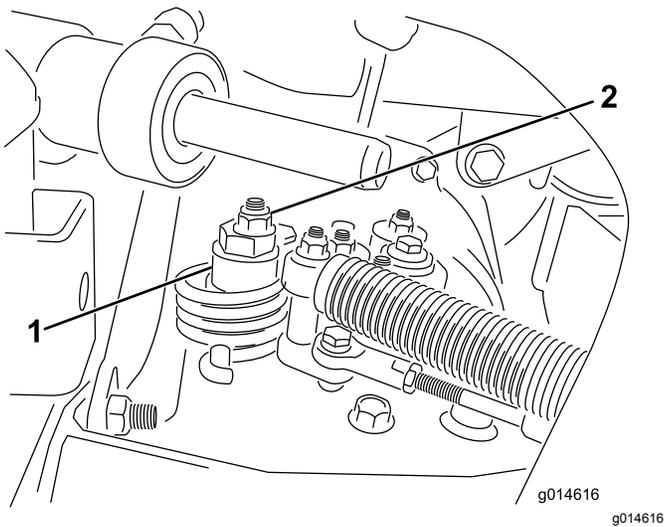

Figure 32
A. Loosen the nut securing the eccentric to the top of the hydrostat (Figure 32).
- C. Rotate the eccentric until creep does not occur in either direction. When the wheel stops rotating, tighten the nut locking the eccentric and the adjustment (Figure 32). Verify the adjustment with the throttle in the SLOW and FAST position.